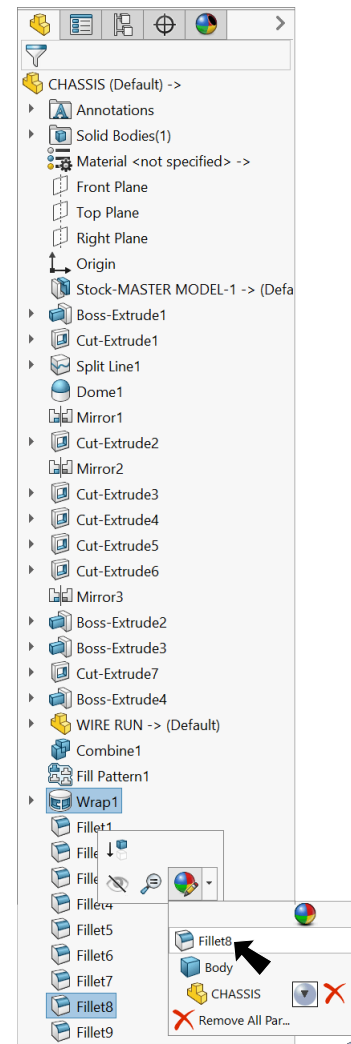

Fig. 128
Step 1. **Ctrl click**  and **Fillet8**  in Feature Manager to select both. Release Ctrl key and click **Appearance Callout**  on the context toolbar then click **Fillet8** , **Fig. 128**.